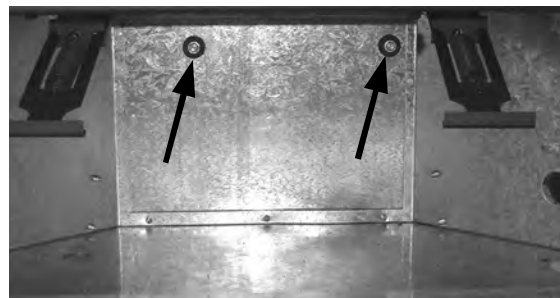

Figure 47. Grommets for Hanging Fan.
2. Remove the fascia, glass door and, two (2) screws holding the control panel in place. Disconnect the sparker and rocker switch wires, and remove the panel.
3. Install the two (2) grommets by placing an 8-32 x 3/4" bolt through each grommet then screwing the bolt to the back cover using a 1/4" socket (see Figure 47)
4. Ensure the wiring harness is attached to the fan then hook the two (2) slots on the fan box over the grommets installed in the last step.